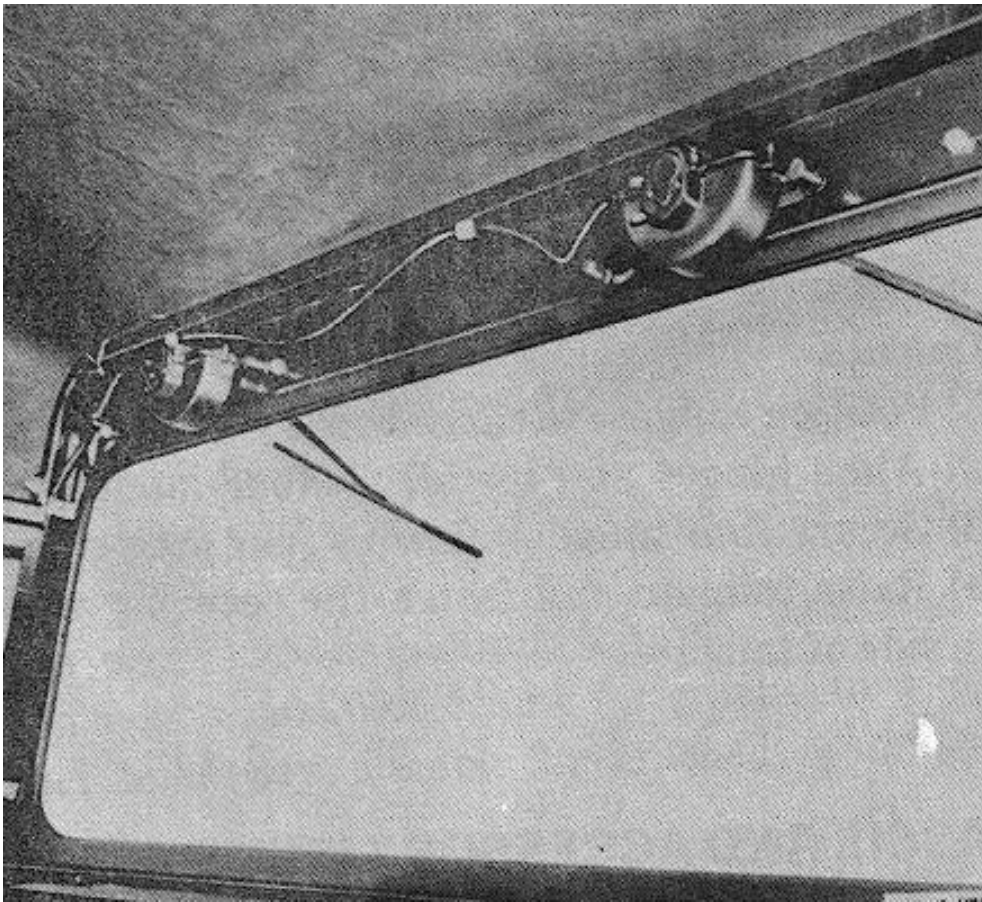

Figure 2-106. Vacuum windshield wipers.
- c. Two vacuum windshield wiper motors and wipers (fig 2-106) are mounted at the top of the windshield. Both wipers can be turned on and their speed adjusted by the windshield wiper control at tne upper left corner of the windshield. Each wiper blade can be operated manually by means of a lever located on each motor.